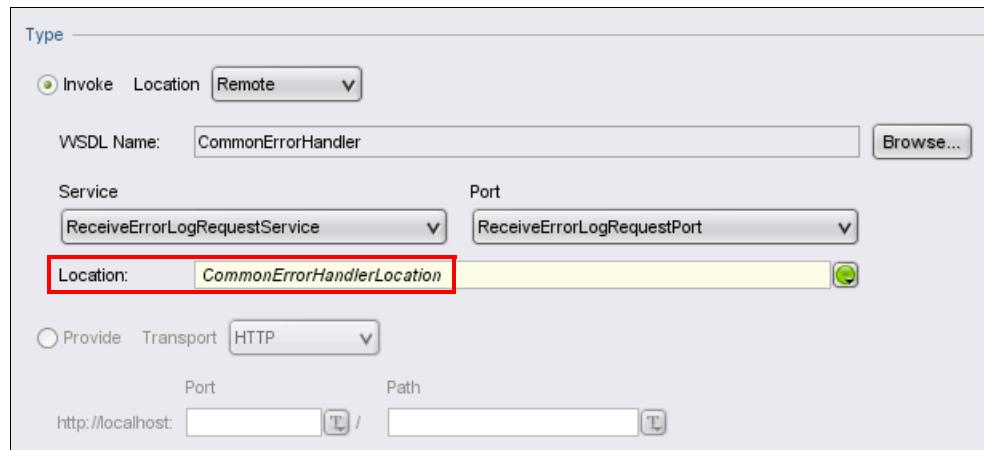

Figure 9-4 The calling orchestration web services endpoint settings
- d. Create the Location text field property as a configuration property, for example CommonErrorHandlerLocation as highlighted in Figure 9-4 on page 354.
- 7. Set the value of the configuration property that contains the web service Location to the location of the remote common error handler orchestration. In Figure 9-4, the configuration property is called CommonErrorHandlerLocation. Click **Project** → **Configuration Properties**. Use the following format for the Location: